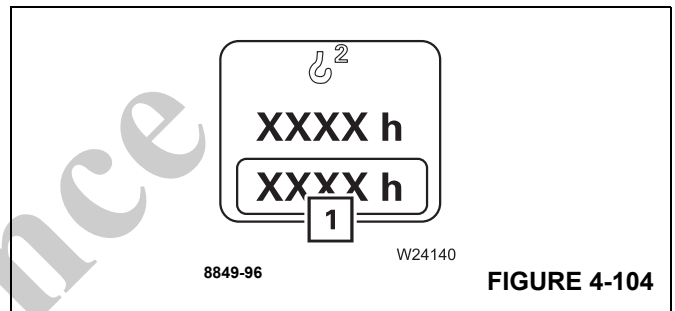

FIGURE 4-104
You can have the operating hours (1), (Figure 4-104) of the hoist displayed. Refer to *Operating Hours Menu*, page 3-51.